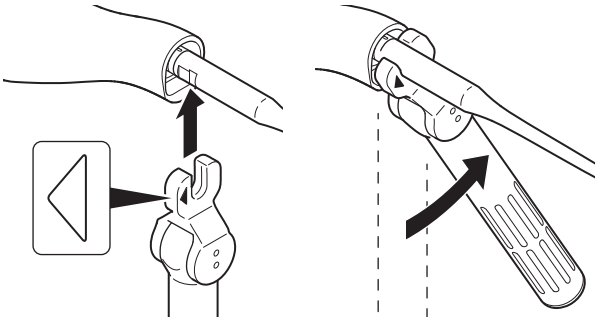

Figure 115 – Tip Loosening
6. Using the torque wrench, loosen the tip on the handpiece (Figure 115).